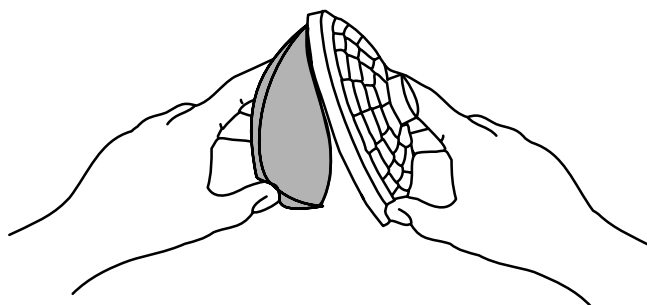

FIG. 23
- a. Pull the top piece of the dome filter off and remove the foam media (Figure 23). Shake it out, rinse it and let it air dry thoroughly.